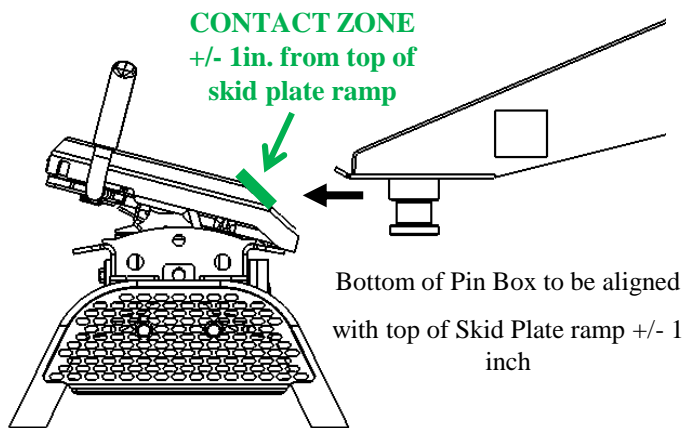

FIG. 13
- C. Pin box is at correct height for hitching (fig. 13 & 14).